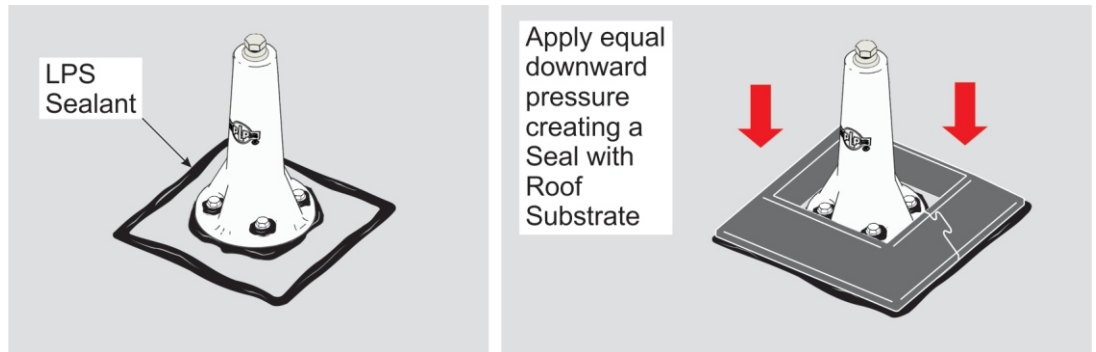

Figure 2-4: Attaching Lockin' Pocket to Roof Substrate
- F. Align the Lockin' Pocket to the reference line. Applying equal pressure all around its perimeter press it firmly downward making a positive contact with the roof substrate. (See Figure 2-4)